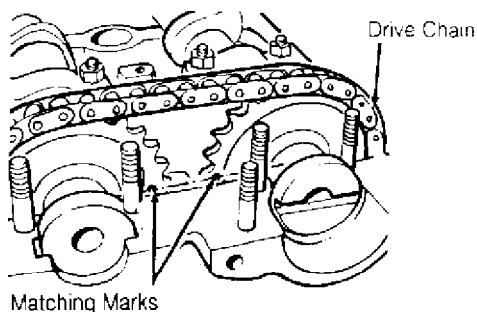

Fig. 17: Aligning Camshaft Gears & Drive Chain (16-Valve)
1) On engines with oil spray jets, position spray at right angle to camshaft. Place drive chain on both camshaft gears. Align matching marks on gears and place both camshafts in cylinder head. See Fig. 17.